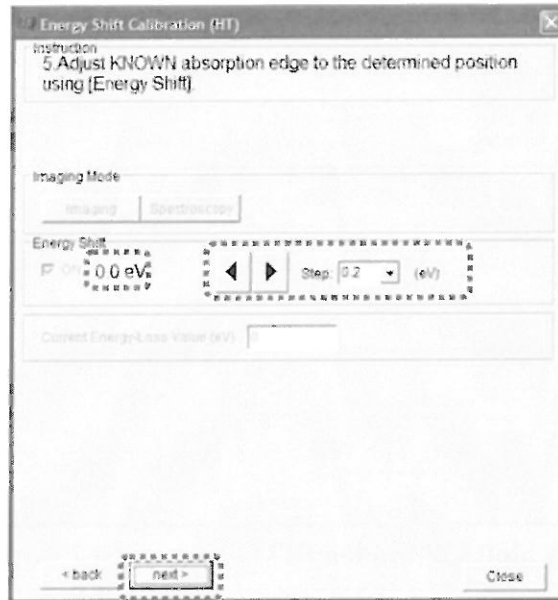

Fig. 5.41 Energy Shift Calibration (HT) - 5. Adjust KNOWN absorption edge to the determined position using [Energy Shift]
5. Follow "Instruction – 5. Adjust KNOWN absorption edge to the determined position using [Energy Shift]" use the "◀" "▶" buttons to adjust the known absorption edge to the desired position (Fig. 5.41). Select the setting of the movement amount from the combo box. After adjustment, press the **next** button and proceed to the next window.